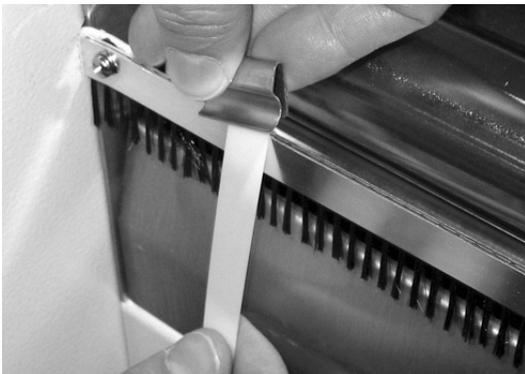

Figure 13
2. Place strap over static brush in appropriate location. (Figure 13)
3. With strap in place, press clip down over strap. (Figure 13)